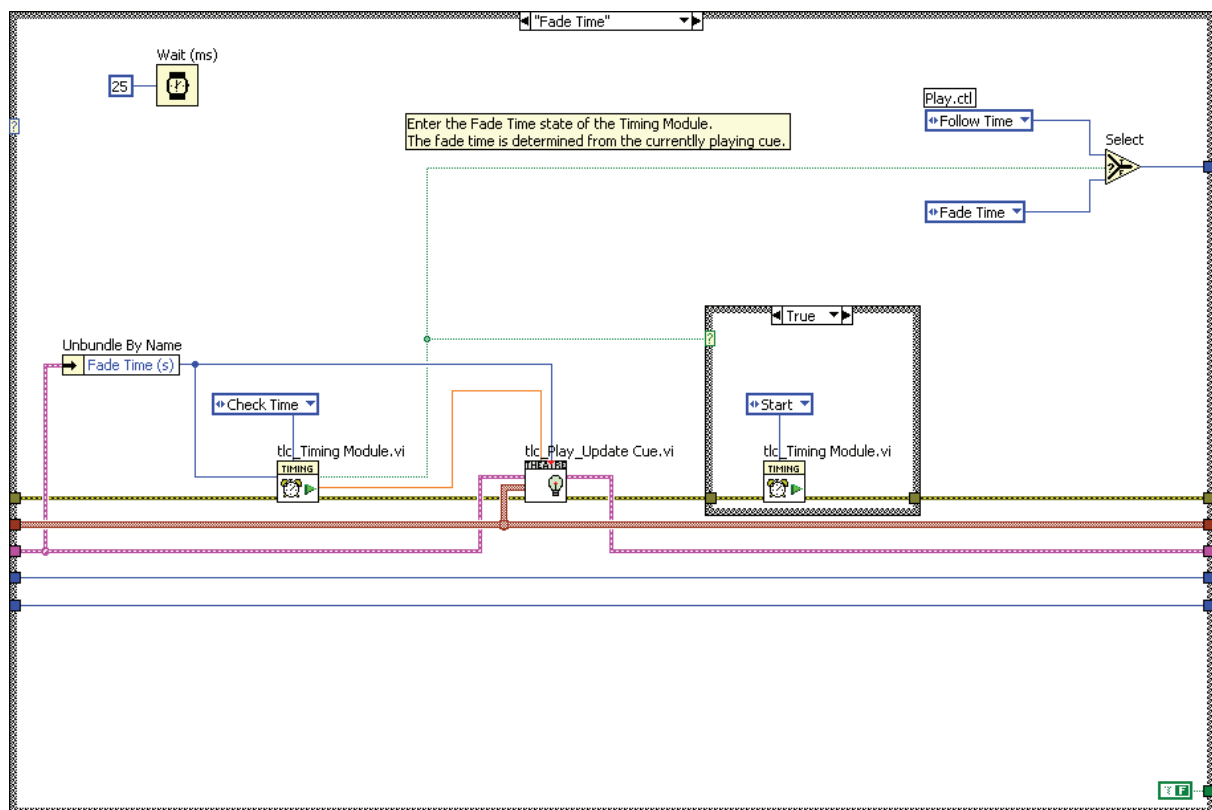

Figure 7-17. Play Module Fade Time Case
4. Modify the Fade Time state in the tlc_Play VI to use the tlc_Timing Module functional global variable to control the timing as shown in Figure 7-17. Use the following items:
- Right-click each tlc_Timing Module VI and select **Create» Constant**. Set each constant as shown in Figure 7-17.
- ☐ tlc_Play_Update Cue.vi—Wire the terminals of this VI as shown in Figure 7-17.